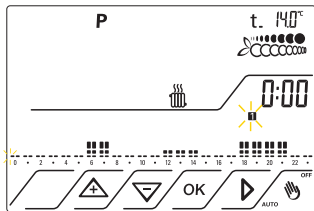

Fig.25
6.5 Press OK to set the Monday  program Fig.25.
- The icon  flashes. Fig.25
- The clock shows the time 0:00 relative to the flashing segment Fig.25.